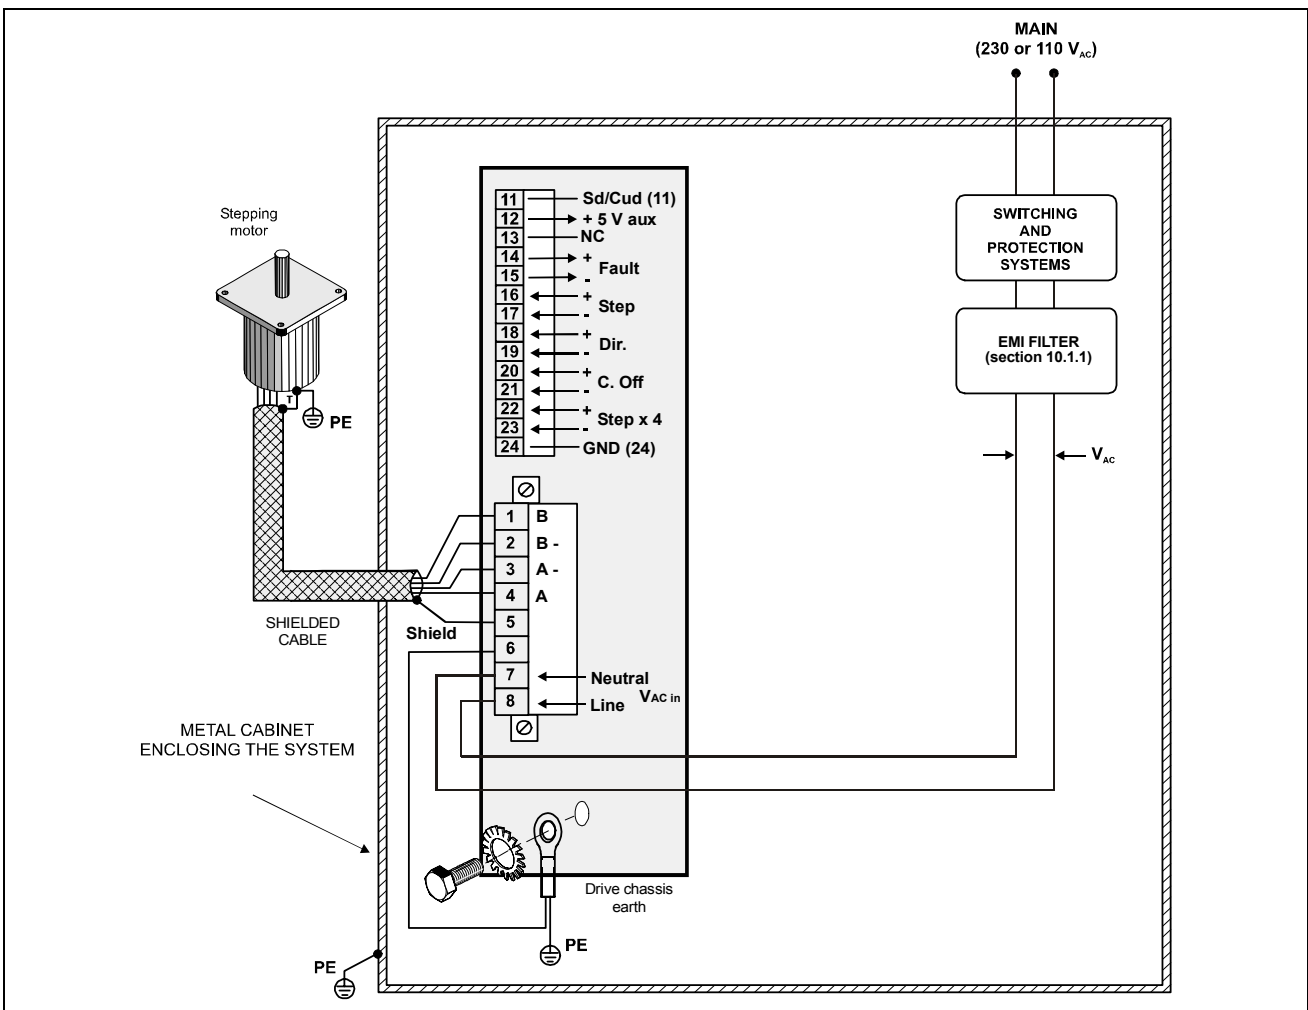

Fig. 5 – Drive external connections scheme.
7.2-**Protection systems indicated in Fig. 5 must include:**
- Interpose an EMI filter in AC power input line (see Fig. 5) in order to reduce conducted electromagnetic interferences. Filter characteristics in a specific installation depend on following factors: